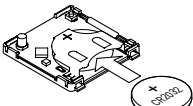

Fig. 6/Abb. 6
3. Slide in a new battery as shown in Fig. 6